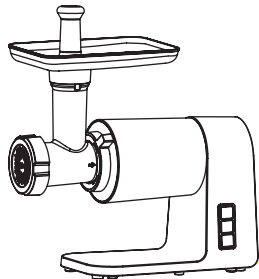

Figure 7.
6. Place the hopper plate on the grinding head and place it into position (fig. 7).